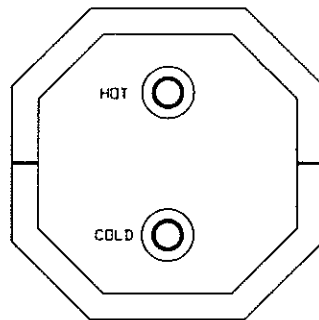

Figure 4
A. Water connections are made at the rear of the water heater. Refer to Figure 4. Connect the hot and cold water lines to the 1/2" female pipe fitting provided on the rear of the tank. These fittings are marked "HOT" and "COLD". Use a pipe thread compound suitable for potable water or pipe thread tape on all connections to assure they will not leak.